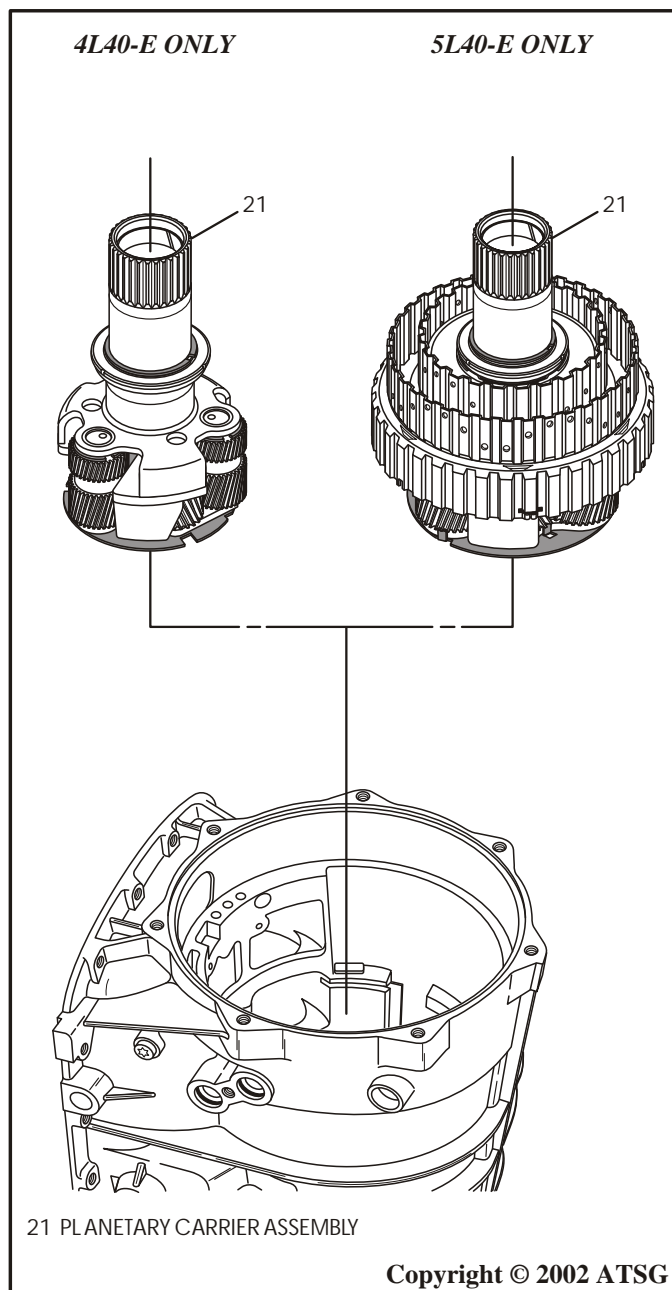

Figure 53
- 46. Remove the planetary gear set from the case, as shown in Figure 53, and set aside for the component rebuild section. We have illustrated both the 4L40-E and the 5L40-E in Figure 53.